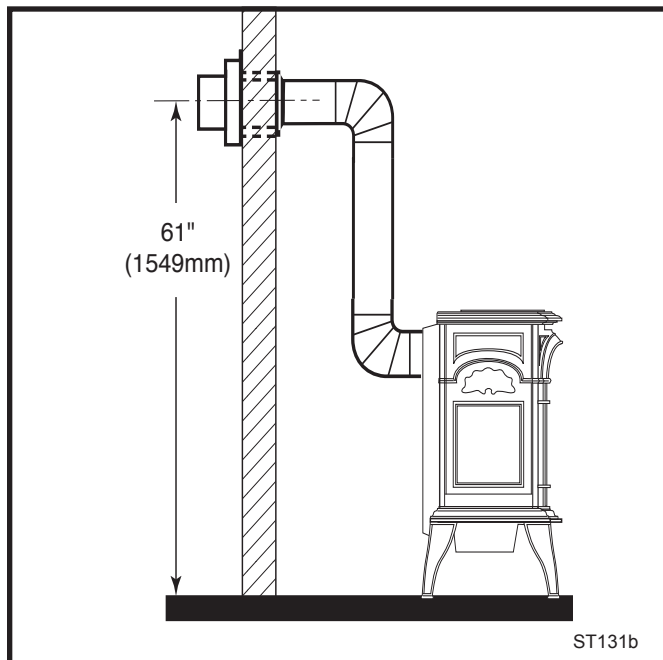
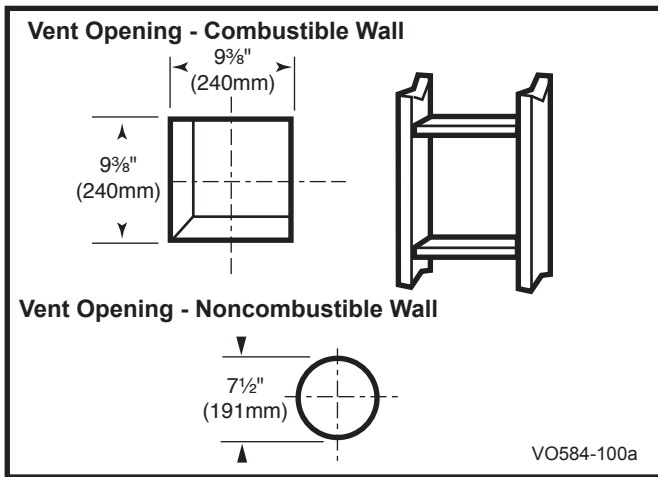

Fig. 20 Minimum wall thimble centerline.
Fig. 23 Locate vent opening.
Refer to Figure 20 for minimum centerline of wall opening.
1. Locate the vent opening on the wall. Refer to Figure 20, to determine the minimum centerline of wall opening. It may be necessary to first position the stove and measure to find the hole location. Depending on whether the wall is made of combustible materials, cut the opening to the size shown in Figure 23. Combustible wall openings must be framed as shown in Figure 23.
3. **Cut the opening:** (Page 17, Fig. 23)